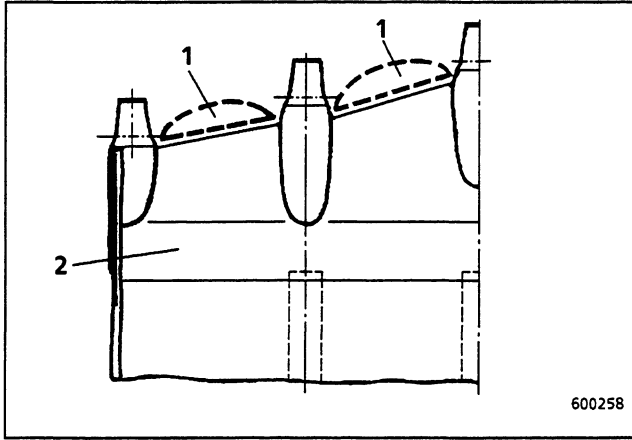

Fig. 37
Prefabricated cutting edges (1, fig. 37) of high-strength, tempered steel can be welded to the excavating tool (2) as a wear-protection material with good cutting capability.